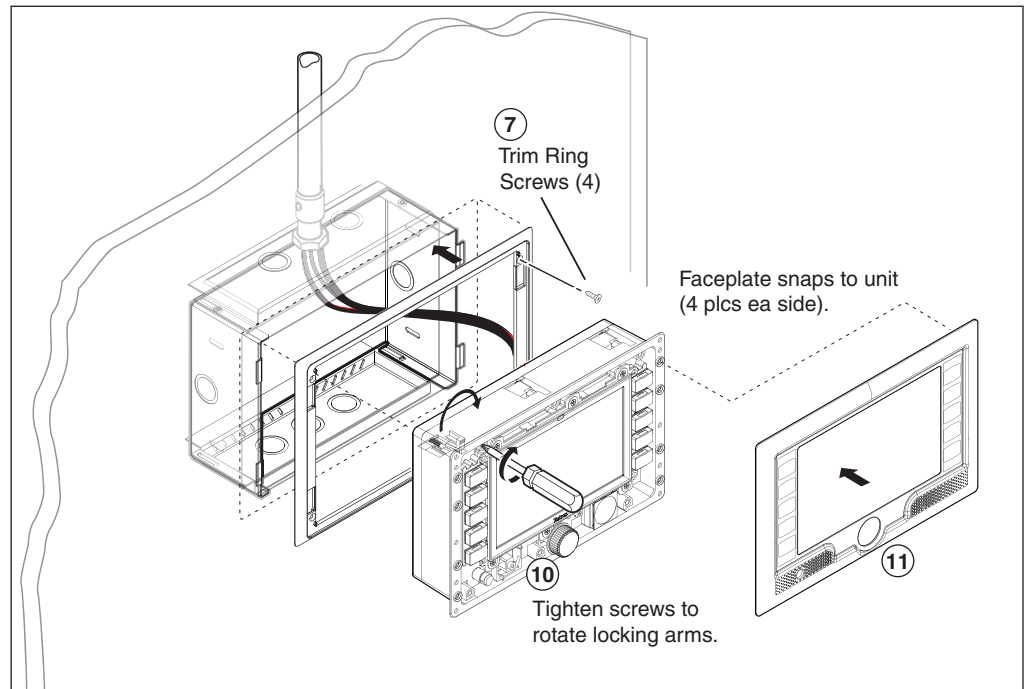

Figure 5
7. Secure the TR 700M trim ring to the drywall, using four screws (see figure 5).
10. Fold the locking arms into their recesses on the side of the TLP 700MV and slide the unit into the wall box. Tighten the screws on the front of the unit so that the locking arms rotate into place behind the top and bottom plates of the BB 700M and hold the unit in place (see figure 5).
11. Snap the faceplate into position (see figure 5).